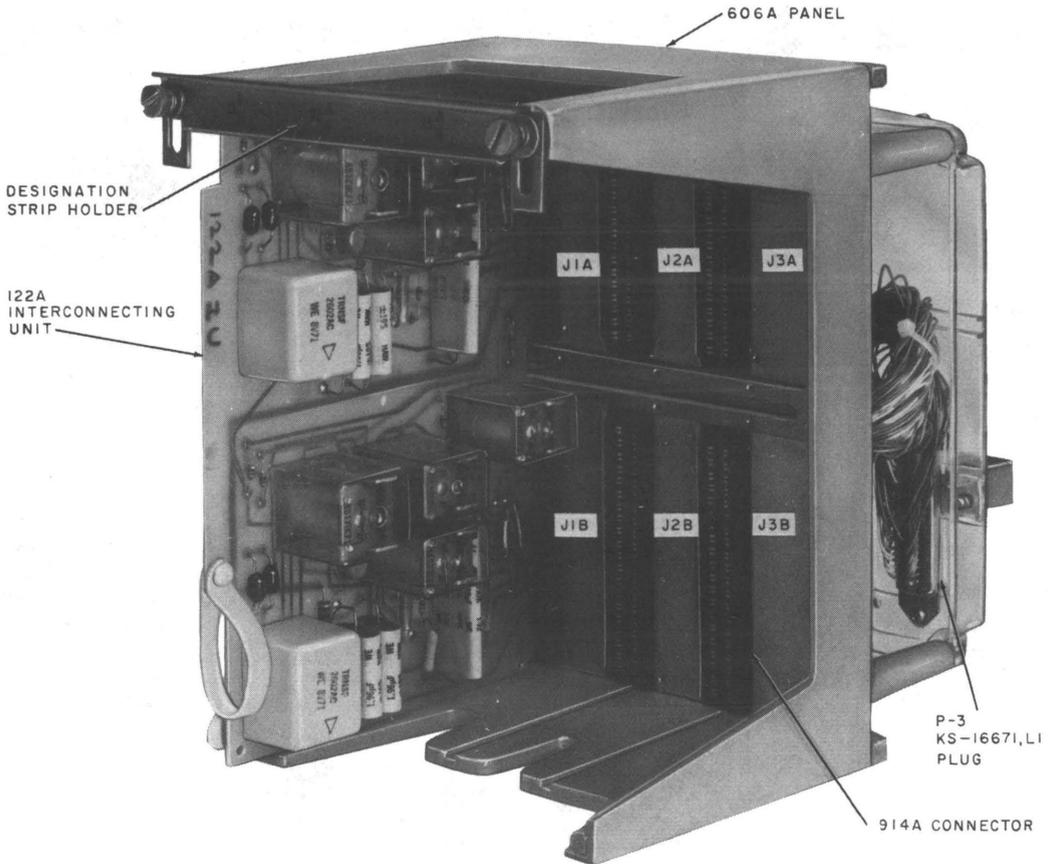

Fig. 2—122A IU Mounted in 606A Panel
- Panel, 606A (one per three 122A IUs, Fig. 2 and 3)